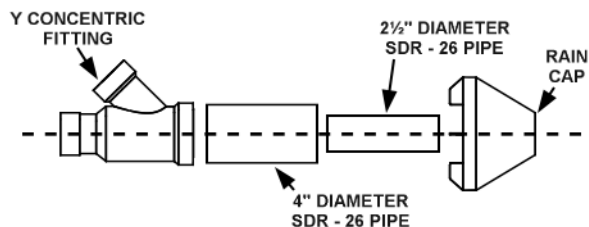

Figure 30. Two-Inch Concentric Termination Kit Dimensions
- A. Cement the Y concentric fitting to larger diameter kit pipe, see **Figure 30** (page 35).
- B. Cement the rain cap to the smaller diameter kit pipe. See **Figure 30** (page 35).
Note: May be replaced by using same diameter, field-supplied SDR-26 PVC (D2241) pipe. Do not extend 21 1/8" (53.6 cm) dimension more than 60" (1.5 m). See **Figure 30** (page 35).